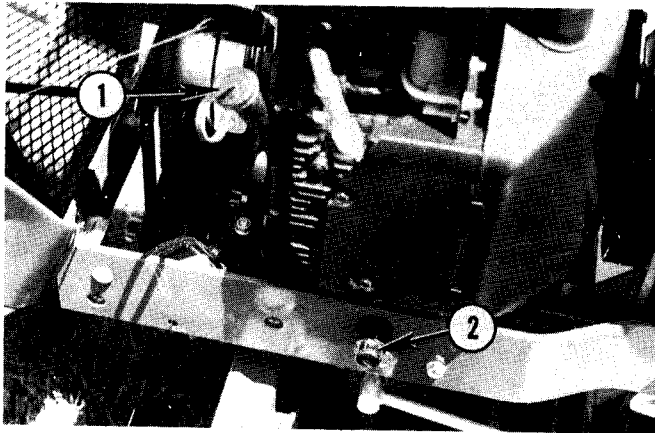

Fig. 8 — Engine Crankcase Lubrication
1. Remove dipstick, No. 1, Fig. 8, wipe carefully with clean cloth, then replace in filler hole, pushing it all the way in. Remove and check oil level. If not to full mark, fill to this point. **DO NOT OVER-FILL.** Use only lubricants recommended in "Lubrication" Section. With proper oil level, dipstick will indicate excessive oil level when dipstick is removed after stopping engine. Wipe off and reinsert dipstick and remove again to check. (Crankcase pressure forces oil up into dipstick tube. Removing dipstick allows oil to flow back into crankcase).